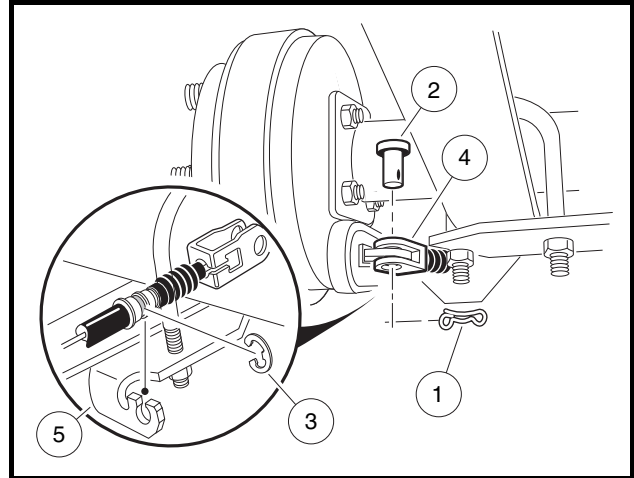

Figure 6-39 Disconnect Cables at Rear Brakes
- 4.1. Remove bow-tie pins (1), clevis pins (2), and E-clips (3) **(Figure 6-39, Page 6-23)**.
2. At the rear wheel brakes, connect the cables to the brake actuator arms using clevis pins (2) and new bow-tie pins (1) (**Figure 6-39, Page 6-23**).
3. Place cables in cable support bracket (5) and secure with E-clips.